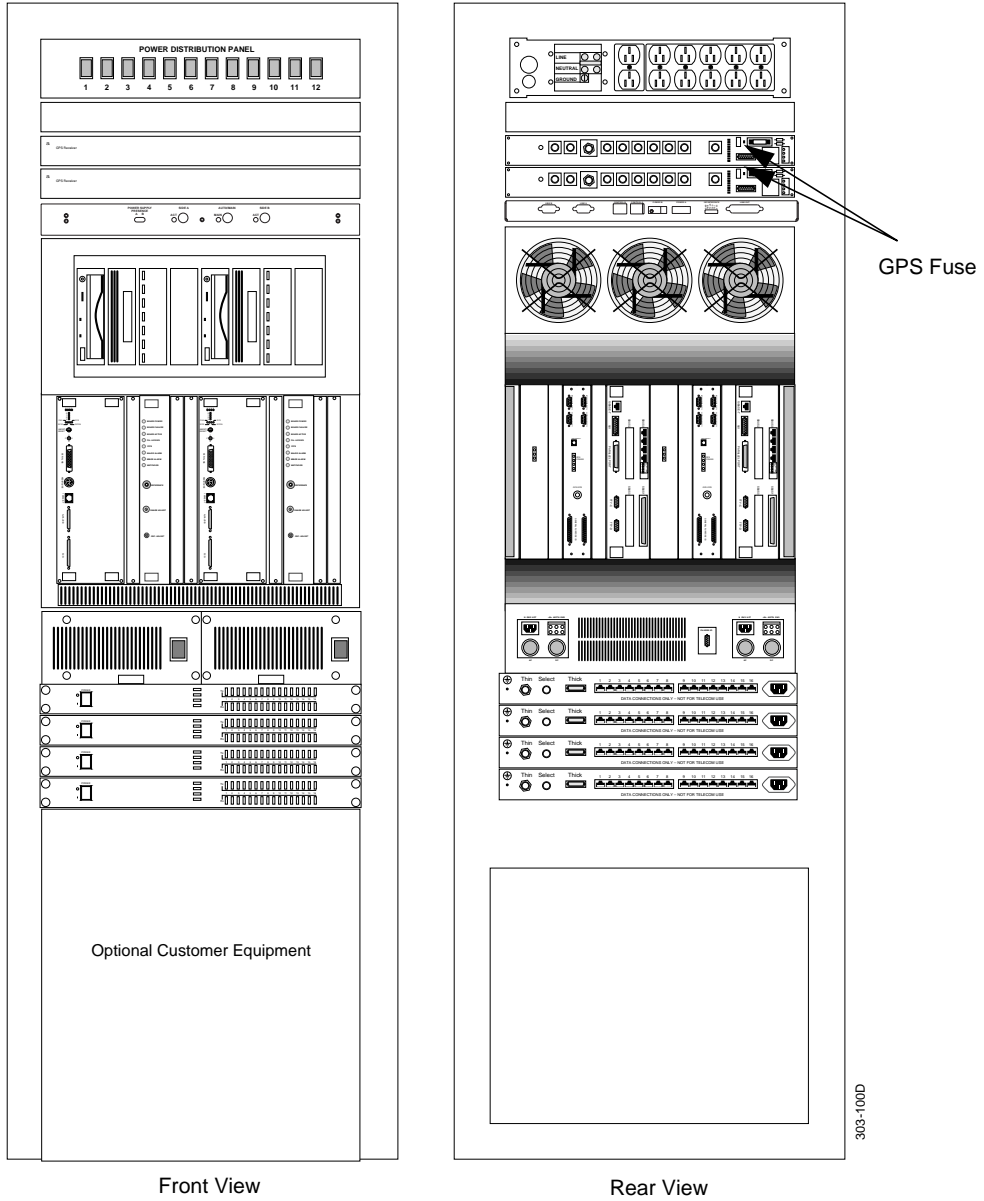

Figure 4-2: GPS Fuse Locations
4. If the voltages are correct, replace the fuse on the GPS receiver (see Figure 4-2).